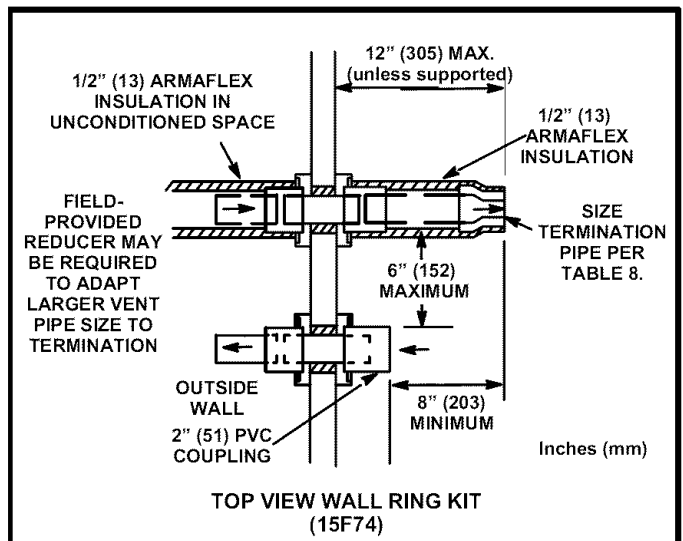

FIGURE 35
- 6 - On field supplied terminations for side wall exits, exhaust piping should extend a minimum of 12 inches (305mm) beyond the outside wall. Intake piping should be as short as possible. See figure 35.